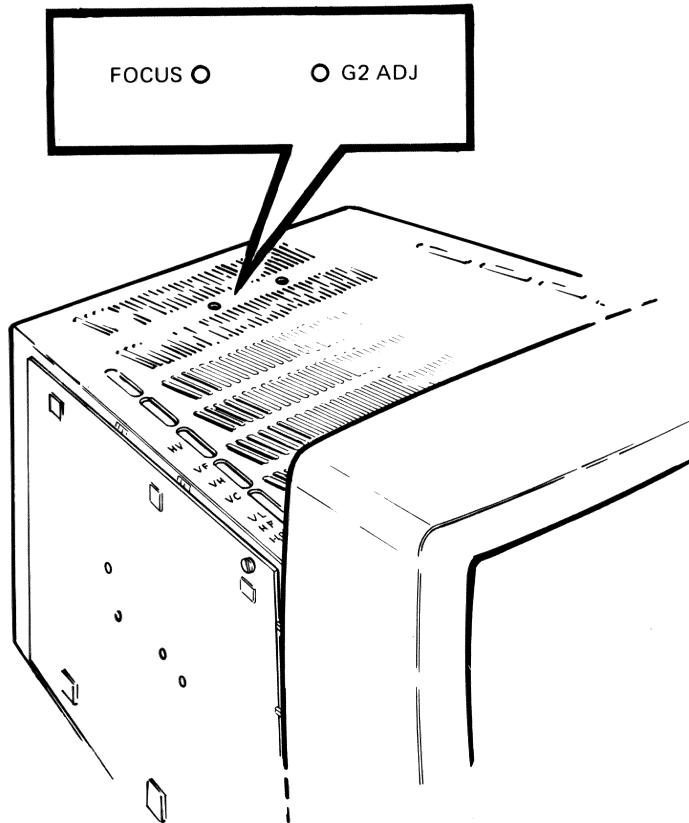

Figure 6-37 VR260 Monitor Adjustments (FOCUS and G2)
- e. On the top of the chassis (Figure 6-37), adjust FOCUS for best vertical/horizontal line convergence. Use cross-hatch pattern intersections approximately three squares toward the center from any screen corner.